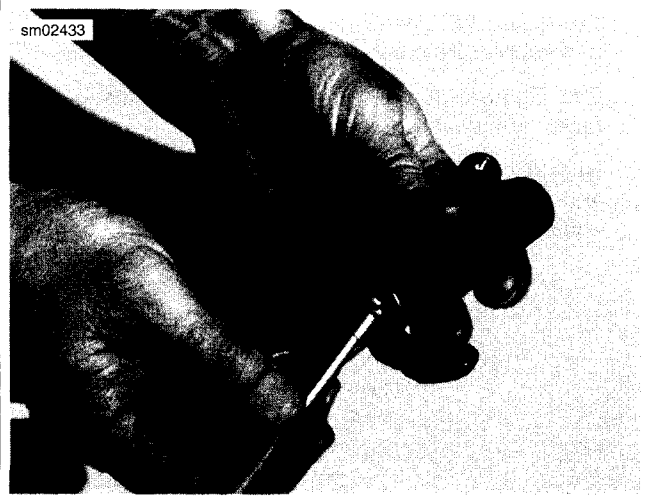

Figure 3-89. Checking Bushings
- a. See Figure 3-89. Measure the inside diameter of the rocker arm bushing.